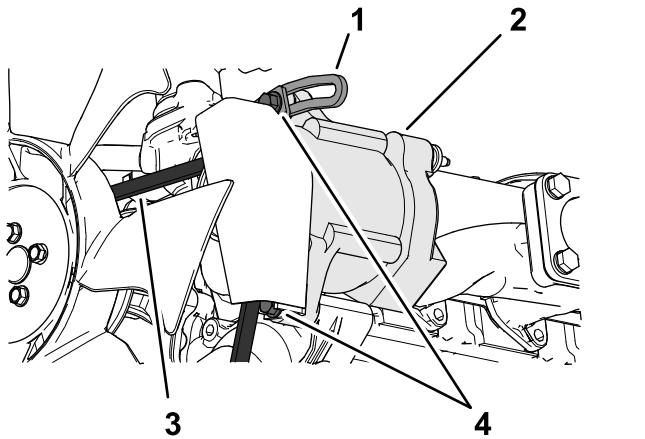

Figure 96
3. Loosen the bolt at the pivot point of the alternator; loosen the bolt that secures the alternator to the slotted brace (Figure 96).